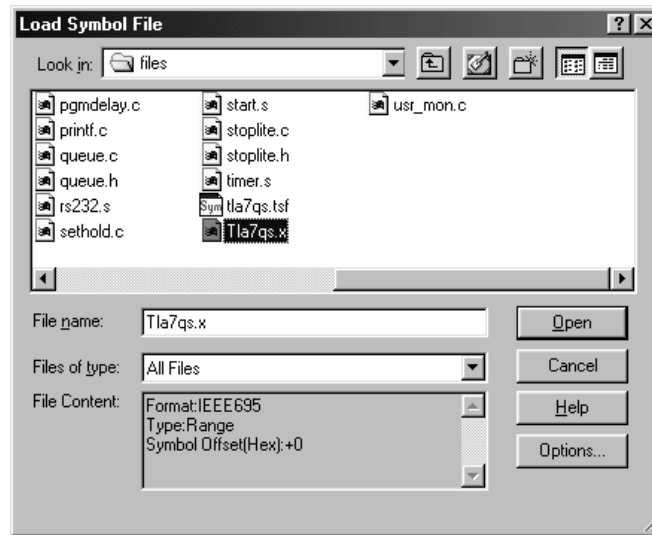

Figure 4–15: Select Symbol File dialog box
5. Click the Options button. The screen shown in Figure 4–16 appears.